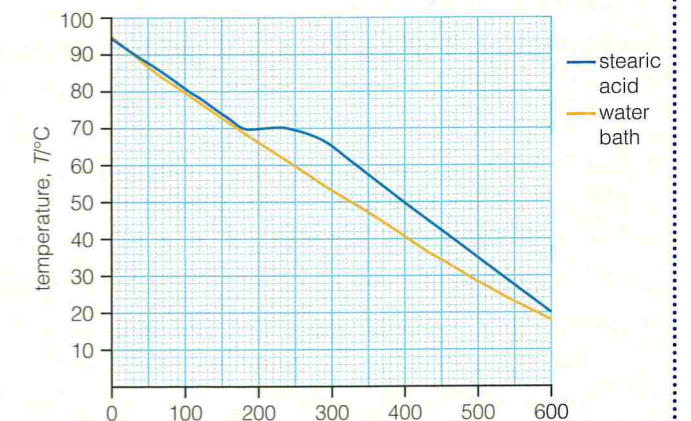

Figure 4.10
- Stearic acid, a common chemical found in soaps, is frequently used to show the phase change of a material. A student set up an experiment using a test tube with 4 g of initially liquid stearic acid contained in a small water bath containing 25 g of water set at 95°C . She puts thermometer probes connected to a data logger into the stearic acid and the water in the water bath and then she turns off the temperature control. The data logger measures and records the temperatures over the course of ten minutes as the water and the stearic acid cool down. Her results are shown in Figure 4.10.